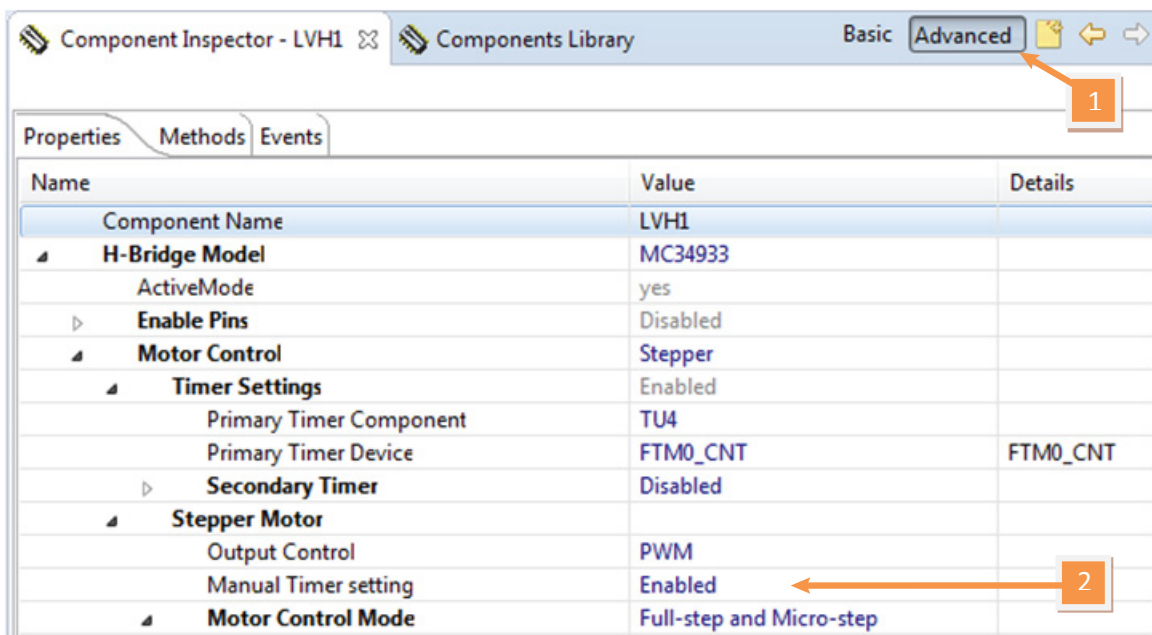

Figure 22. Enabling the Manual Frequency Setting
3. In the Properties tab, find the **Motor Control** -> **Stepper Motor** -> **Manual timer** setting property and set the value to **Enabled**. If you do not see this property, make sure that component visibility is set to Advanced (see Figure 22).